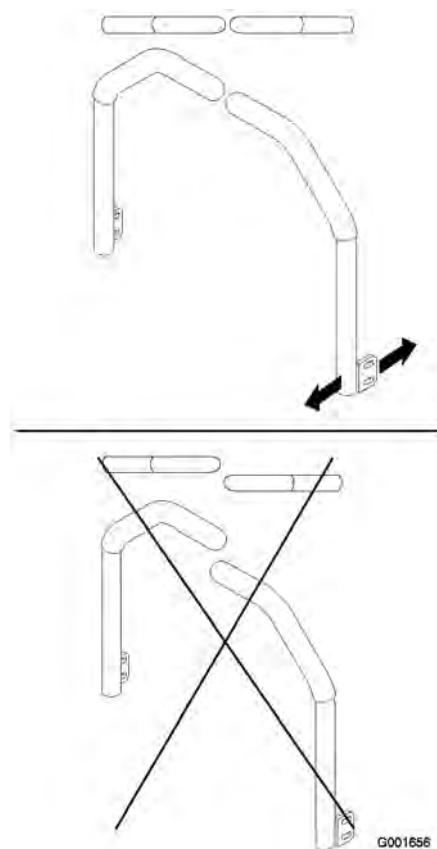

Figure 12
3. In the neutral position, raise the levers, bringing them together, and slide them until they are aligned, then tighten the bolts (Figure 12).